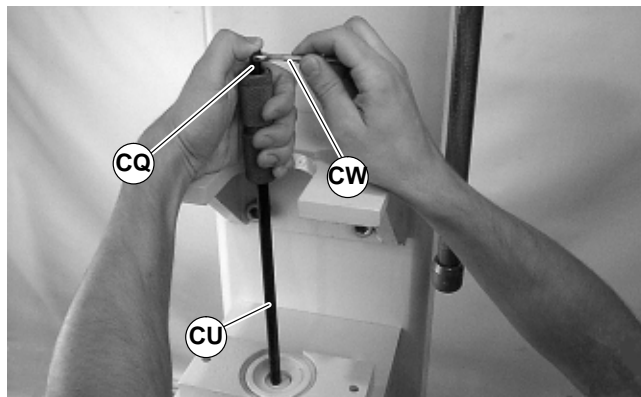

Figure 40
2. While holding bearing removal tool (CQ) in position, insert extension tool (CU), part number 25-08, into opposite end of pulley (CR). Rotate bearing removal tool (CQ) to engage hex tip of extension tool (CU) into screw (CV) of bearing removal tool.
3. While maintaining extension tool (CU) position, use a wrench (CW of Figure 40) to rotate the bearing removal tool (CQ) to expand the flare end of the tool.